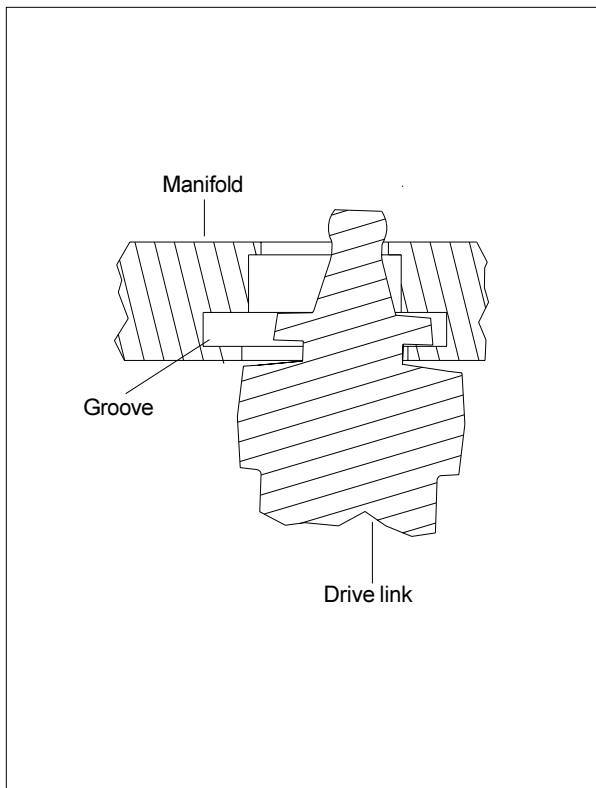

FIGURE 2
- K) Install 25 springs (20) on top of piston. Install O-ring seal (8) in groove in rear surface of housing (14). If rear shaft bearing (21) and spacer shim(s) (22) came out of rear housing (23), reinstall at this time by placing spacer shim(s) (22) into rear housing (23) first followed by rear shaft bearing (21). Place rear housing (23) onto front housing (14) lining up bolt holes. While holding motor assembly together, remove motor assembly from vice and place in arbor press. Press down on rear housing (23) until it contacts front housing (14) and lock press. Install eight capscrews (24) and torque to 45 ft. lbs.
- L) Insert the drive link (25) into the shaft with the tapered end facing up. Place a body seal (9) into the groove in the face of the rotor assembly (26). With the seal side of the rotor assembly (26) facing the rear housing (23), line up the splines of the drive link (25) and the rotor assembly (26) and lower the rotor assembly onto the rear housing (23).
- M) Place a body seal (9) into the groove in each face of the manifold (27). Lift the drive link (25) approximately .100 and place the tip on a small screwdriver under the disk-shaped portion of the drive link to hold it up. Making sure that the notch in the manifold is aligned with the tab on the rotor and that the side with the largest holes faces down, lower the manifold (27) onto the motor and engage the disk shaped portion of the drive link (25) into the groove in the manifold (27) (See Figure 2). Remove the screwdriver and lower the manifold (27). If the disk is engaged in the groove, the end of the drive link will protrude above the surface of the manifold. If it doesn't, remove manifold and repeat this step.
- N) Install the commutator seal (10) into the commutator (28) with the metal side facing out. Use finger pressure to press the seal down flush with the surface of the commutator. Place the commutator container (28) onto the manifold (27) and then place the commutator onto the protruding end of the drive link (25) making sure that the seal side faces up.
- O) Install the remaining body seal (9) in the groove in the face of the endcover (31). Install the piston spring (30) into the endcover (31), then the white Teflon seal (12), followed by the O-ring seal (11). Lining up the alignment pin, press the piston (29) into the endcover (31). While holding the endcover piston (29) into the endcover (31), lower the endcover assembly onto the motor.
- P) Install the four assembly bolts (33) and pre-torque to 10 ft. lbs. Final torque all bolts to 50 ft. lbs.